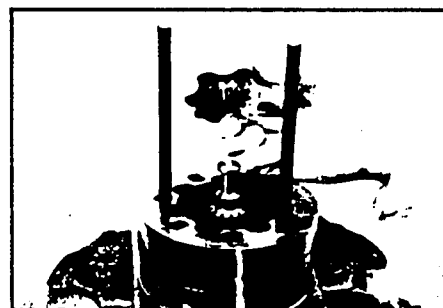

Figure 71
3. Assemble the rotor (8A), counterbore down if applicable, into stator (8B), and onto wear plate (9) with rotor splines into mesh with drive link (10) splines. SEE FIGURE 71.